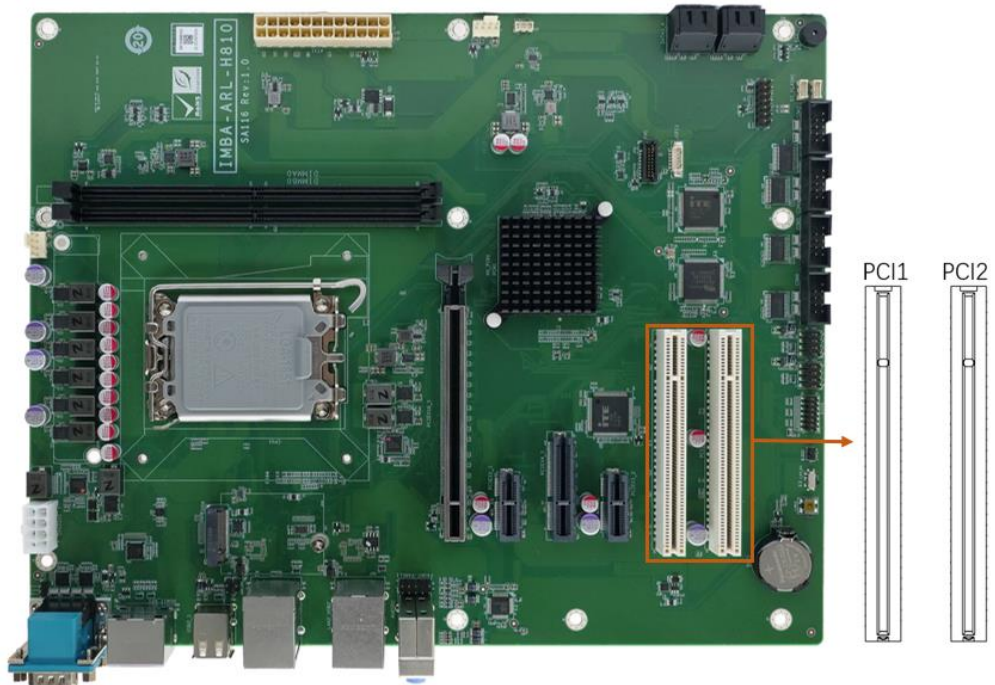

Figure 3-23: PCI Slot Locations
- CN Location:** See **Figure 3-23**